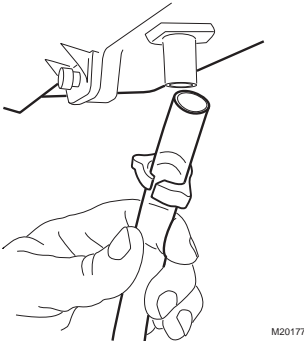

Fig. 9. Installing the drain tubing.
4. Use 1/4-in. (6mm) OD tubing and connect the saddle valve to the inlet side of the solenoid valve on the humidifier (See Fig. 9).